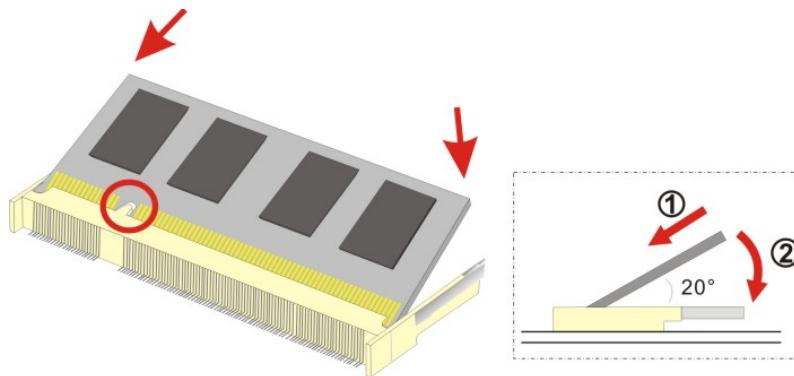

Figure 3-4: SO-DIMM Installation
Step 3: Align the SO-DIMM with the socket. The SO-DIMM must be oriented in such a way that the notch in the middle of the SO-DIMM must be aligned with the plastic bridge in the socket (**Figure 3-4**).
Step 4: Push the SO-DIMM into the socket at an angle (**Figure 3-4**).
Step 5: Gently pull the arms of the SO-DIMM socket out and push the rear of the SO-DIMM down (**Figure 3-4**).